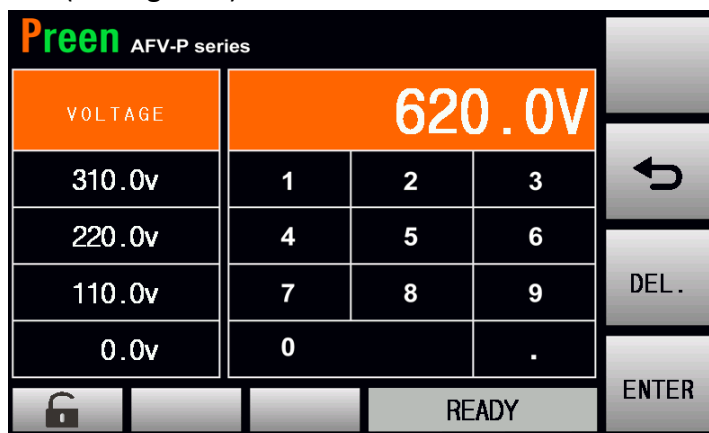

Figure 6
5. Press the icon  to return to the main page, the output voltage can now be set from 0 to 620 (see Figure 6).